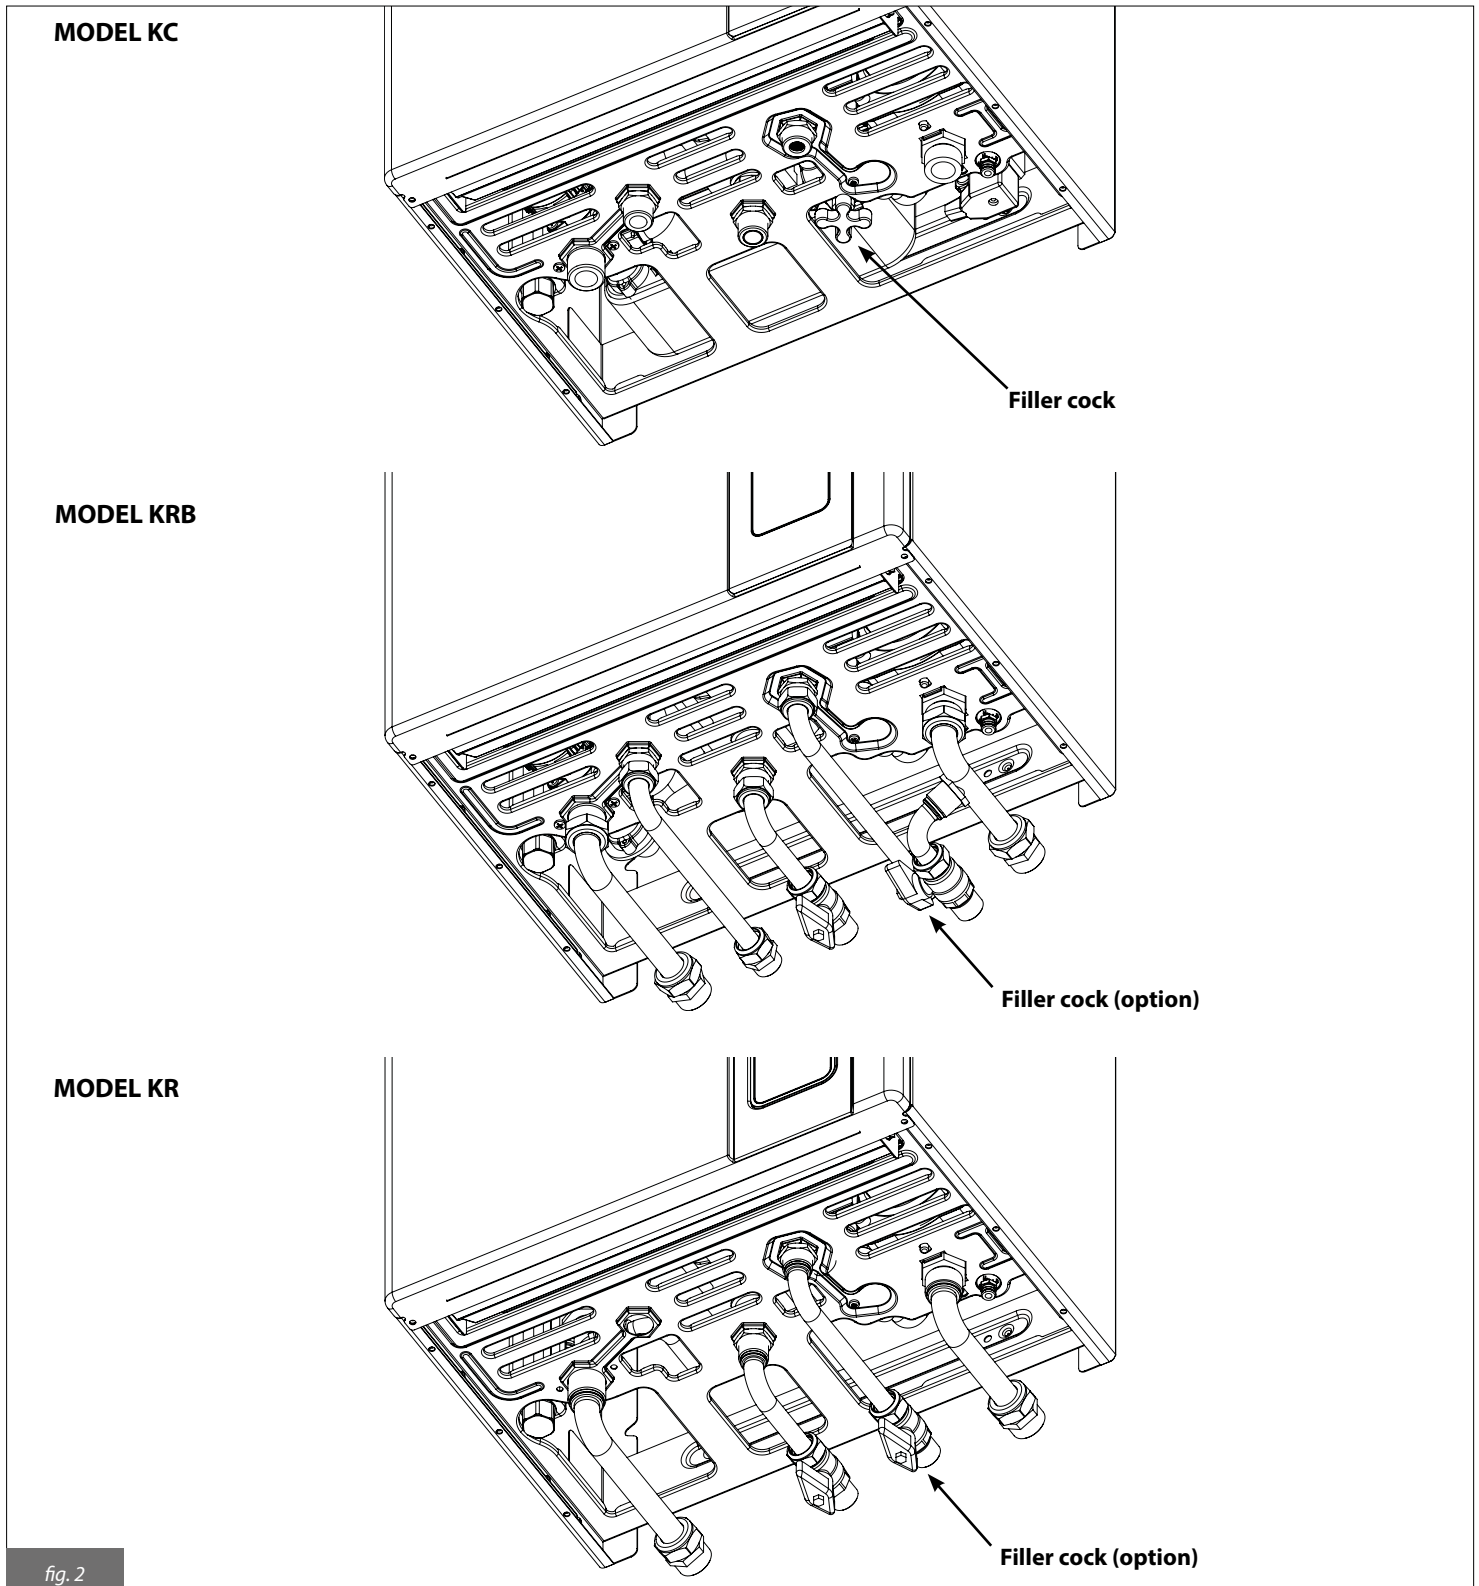

fig. 2
If "shutdown due to insufficient pressure in system" error **E04** starts flashing (indicating safety water pressure switch triggering), fill the system by opening the filler cock (model KC) or the cock on the cold water supply pipe (models KR and KRB) (see fig. 2).
- turn the filler cock (model KC) or the cock on the cold water supply pipe (models KR and KRB) (see fig. 2) anticlockwise to allow water to enter the boiler;
- turn filler cock (model KC) or the cock on the cold water supply pipe (models KR and KRB) (see fig. 2) clockwise to close it.